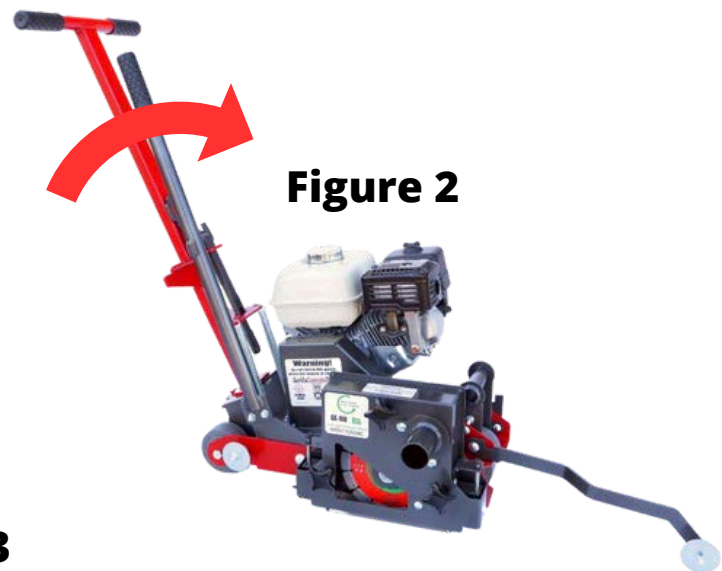

Figure 2
2. Attach lower lift handle using the provided hardware (Fig.2). Rotate the handle clockwise towards the front of the unit, this allows the blade to have maximum ground clearance.